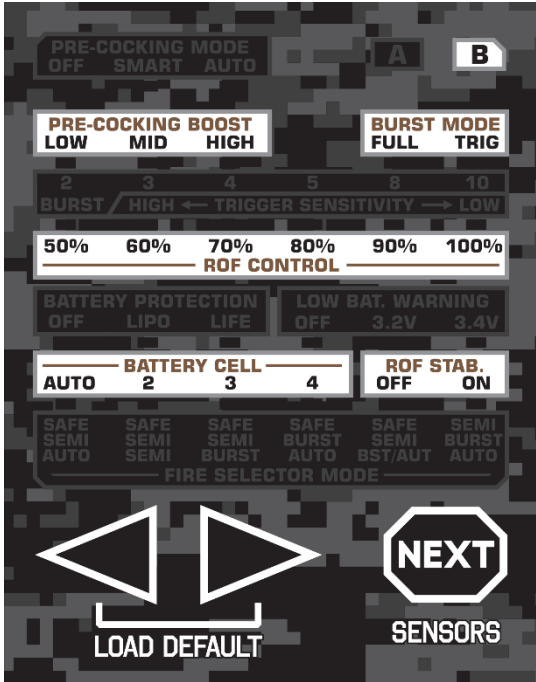

Fig.3
- **‘B’ display** – includes functions such as: PRE-COCKING BOOST, BURST MODE, ROF CONTROL, BATTERY CELL and ROF STAB. (Fig.3),
- When the icon **B** is ON, the '**B**' display is activated. Check settings only on the white display of the TPC (Fig.3).